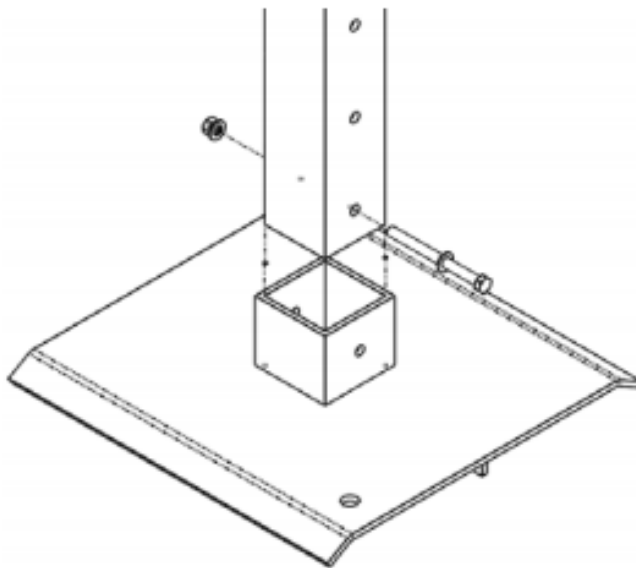

Figure 3
- 1) Attach one (1) Foot Pad to the end of one (1) Square Tube Leg from previous step and align as shown in Figure 3.
- 2) Attach one (1) 3/8" Flat Washer to one (1) 3/8" Hex Bolt and insert through hole(s) in the Foot Pad and Square Tube Leg as shown in Figure 3.
- 3) Attach one (1) 3/8" Lock Washer and one (1) 3/8" Hex Nut to the protruding end of the Hex Bolt and securely fasten with appropriate wrench until secure.
- 4) Repeat these steps for the remaining five (5) Foot Pads.